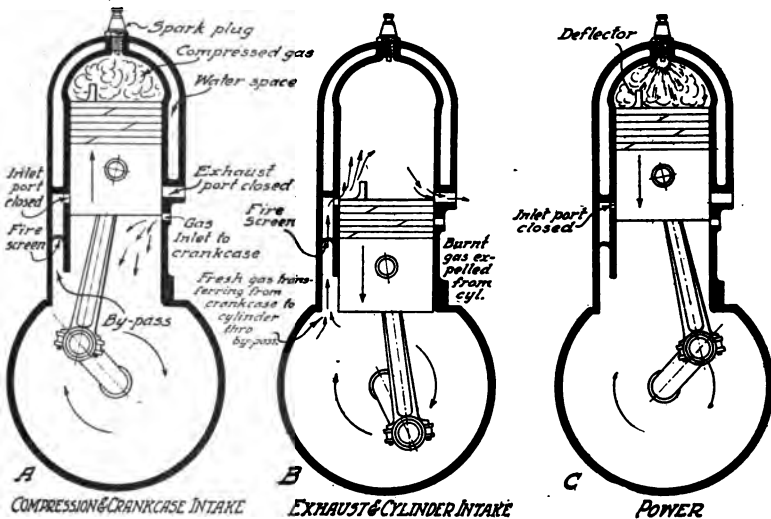

Fig. 18. Diagrams of Operation of Three-Port Two-Cycle Engine
**Two-Stroke-Cycle, or Two-Cycle.** In the two-cycle engine, the same series of operations is performed in two strokes of the piston, or one revolution of the crankshaft; and this is accomplished by the use of crankcase compression and the difference in density of hot and cold gases. Referring to Fig. 18, it will be noticed that instead of the usual poppet valves of the four-cycle engine, the two-cycle engine has
Starting with the piston at the lower dead center and traveling upward, there will be a partial vacuum produced in the crankcase which is air tight. When the skirt of the piston uncovers the inlet port, the vacuum will cause a rush of explosive gas into the crankcase A, Fig. 18. When the piston has reached the top dead center and